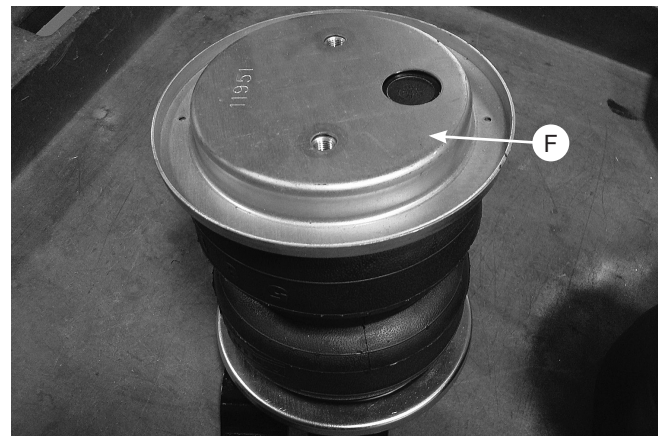

Fig. 10
- Flip the assemblies over and set a roll plate (F) onto the bottom of the air springs (Fig. 10).